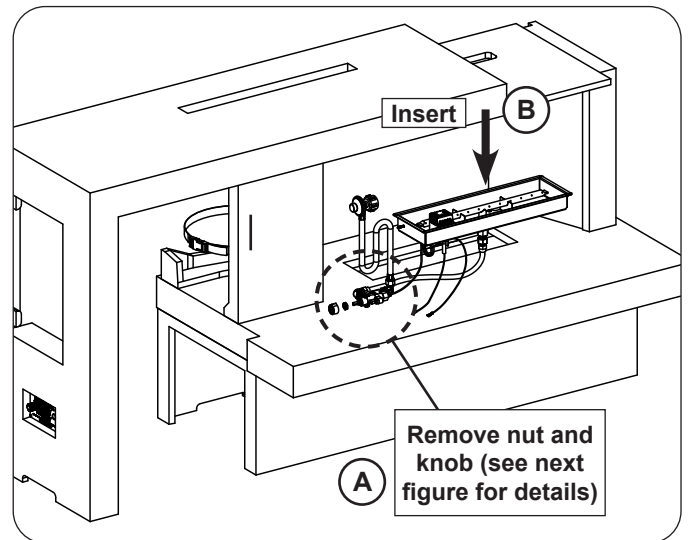
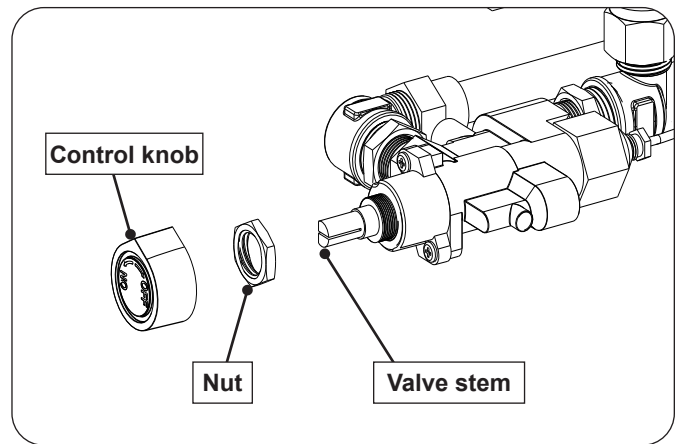

Fig. 22-1 Place burner
Fig. 22-2 Remove nut and knob
9. Locate the valve and burner assembly. Remove the control knob. Use a 20mm socket to remove the nut attached to the valve stem. See Fig. 22-1, A, and reference Fig. 22-2 for details.
Then drop the valve and burner assembly into the opening in the center of the hearth shelf (see Fig. 22-1, B).